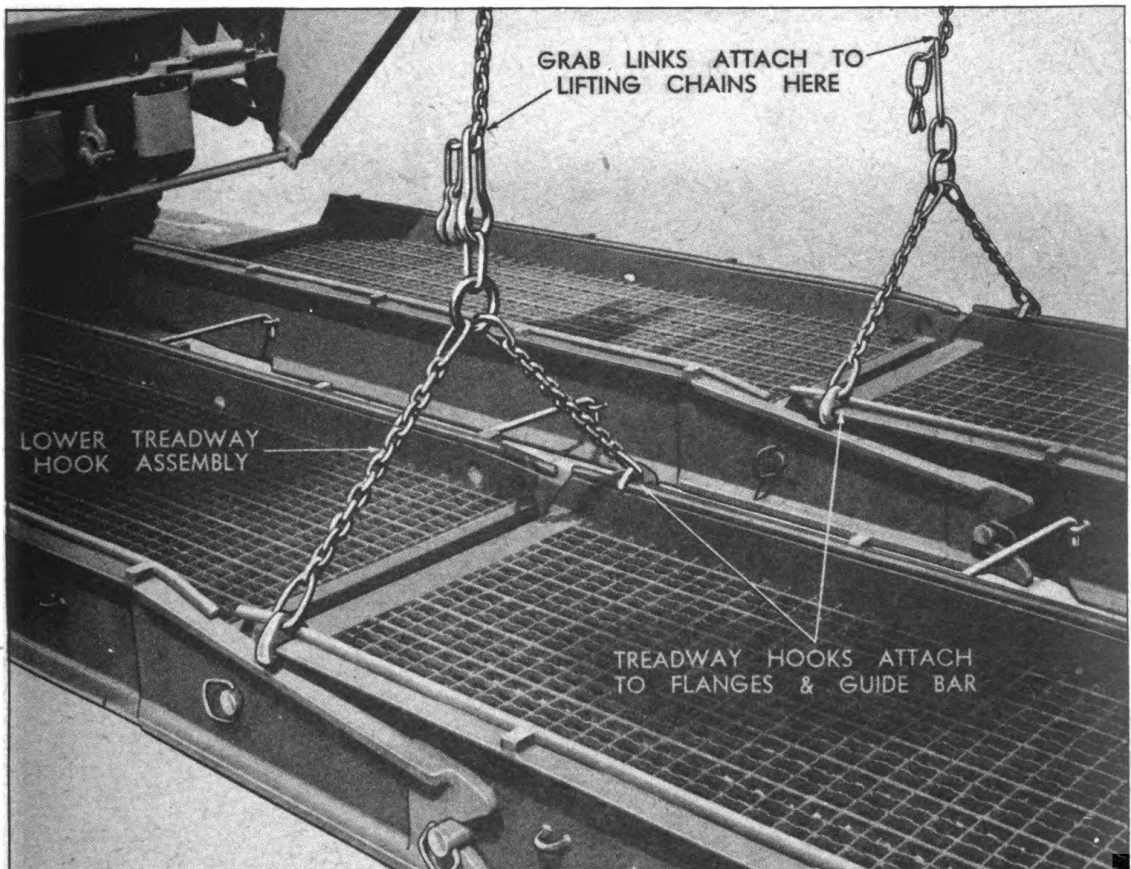

Figure 30. Treadway Hooks Attached Properly to Lift Four Treadways
(1) To handle four treadways at a time, connected in pairs, attach the treadway hooks to the flanges of the treadways at the balance point as shown in Figures 29 and 30. The hook notches lock over the treadway guide bars. Insert the outer lifting chains through the pear-shaped grab links of the lower treadway hook assemblies. The pear-shaped grab link should attach to the chain just above the large, end-connecting link on the end of the lifting chain, see Figure 30.